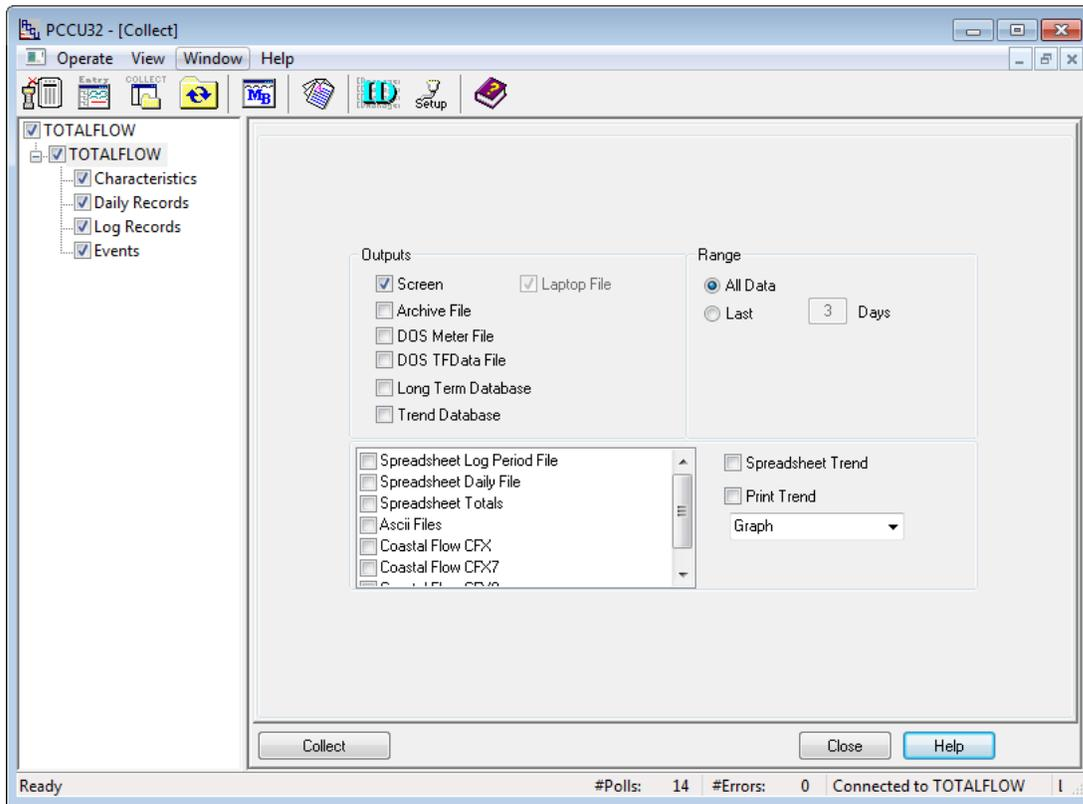

Figure 63: Data collection screen
4. On the collection screen, select the measurement application in the navigation tree (Figure 63).